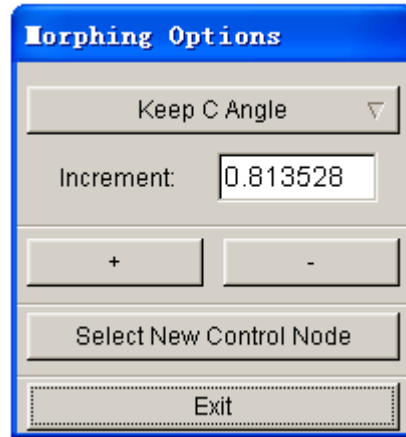

Figure 6.5.8 Morphing Options
- 3) After the node is selected, the dialog box as illustrated in Figure 6.5.8 is displayed.